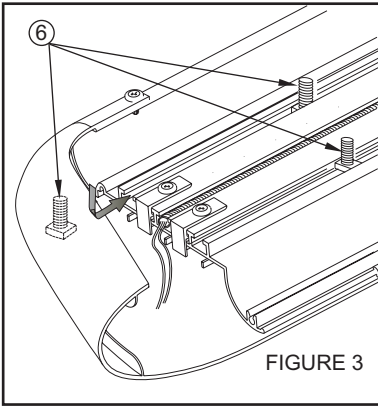
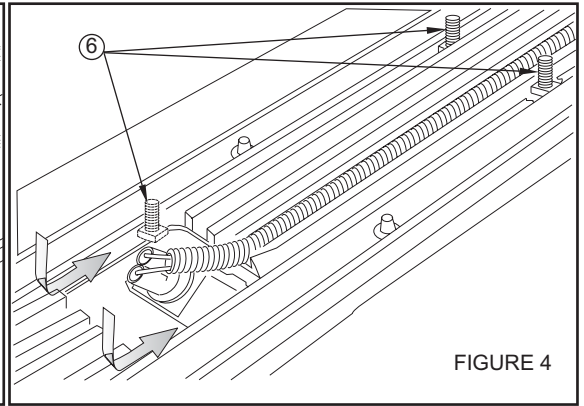

FIGURE 3
FIGURE 4
- STEP 3. Insert square head bolts as shown ( 4 per slot, 8 per board). **SEE FIGURES 3 AND 4.**
**NOTE:** For lighted boards, run wiring harness prior to attaching board to brackets (refer to Step 6). **SEE FIGURES 3 AND 4.** Run longer wire harness on passenger side.
**HINT:** Molded Step Boards: For longevity, check rubber seals before installation. Rubber grommets around red and blue wires going into rear sockets, should be inserted and recessed about 1/4". **NOTE:** Remove bulbs and apply white grease into sockets and replace bulbs. Apply RTV Silicone where lights go into socket. Install lights and run wire loom as shown. **SEE FIGURE 4.** For Sure-Grip Running Boards, run wire loom down center as shown. **SEE FIGURE 3.**